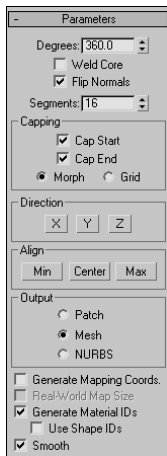

Figure 4.71
7. The profile line is ready to turn into a 3D object. This is where the modifiers are used. Get out of Sub-Object mode for your line. Choose Modifiers → Patch/Spline Editing → Lathe (you could also go to the Modifier List and choose Lathe from the alphabetical list of modifiers). When you first put the Lathe modifier on your spline, it won't look anything like the knob (see Figure 4.70)—but don't panic! You need to futz with the parameters to get it right (Figure 4.71). Basically, the object is turned inside out.